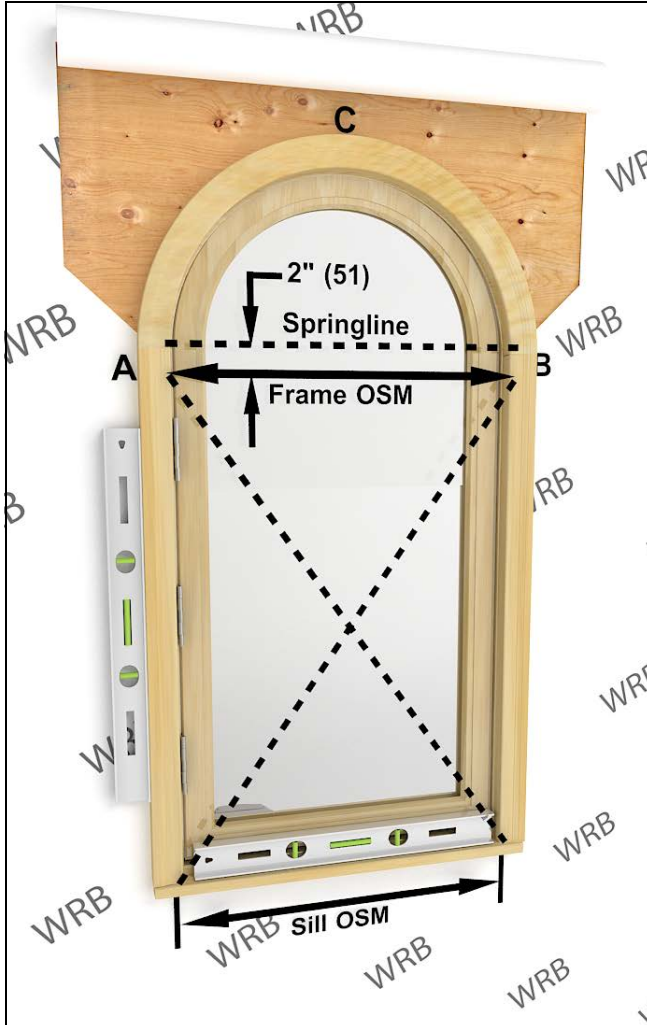

Figure 7
4. On operator sash: use the level to plumb the hinge side jamb, shim and fasten approximately 2" (51) below the springline.
5. Measure upwards from the sill to the point where the hinge side is fastened. Measure upwards from the sill and mark an exact point on the jamb opposite the hinge directly across from where the hinge jamb is fastened. Shim and adjust the opposite hinge side jamb at this mark until the frame OSM at this point is equal to the sill OSM. Once the measurements are equal fasten frame at the marked point. See figure 7.